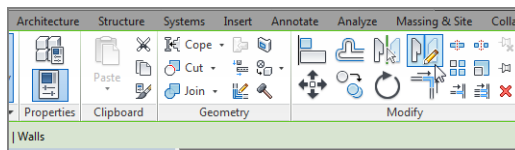

FIGURE 1.24: The Ribbon adds the appropriate commands.
2. When the walls are selected, the Modify | Walls tab appears. On the Modify panel, click the Mirror – Draw Axis button, as shown in Figure 1.24.